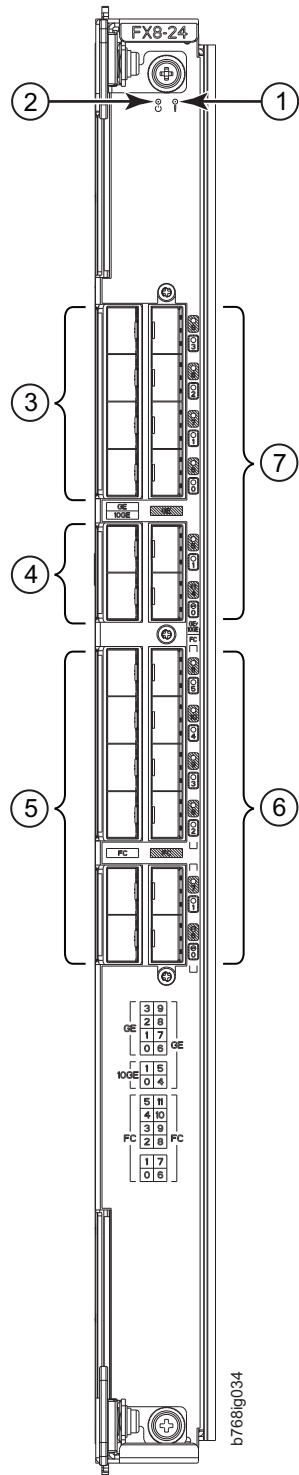

Figure 60. FX8-24 extension blade
- Figure 60 on page 161 shows the FX8-24 extension blade